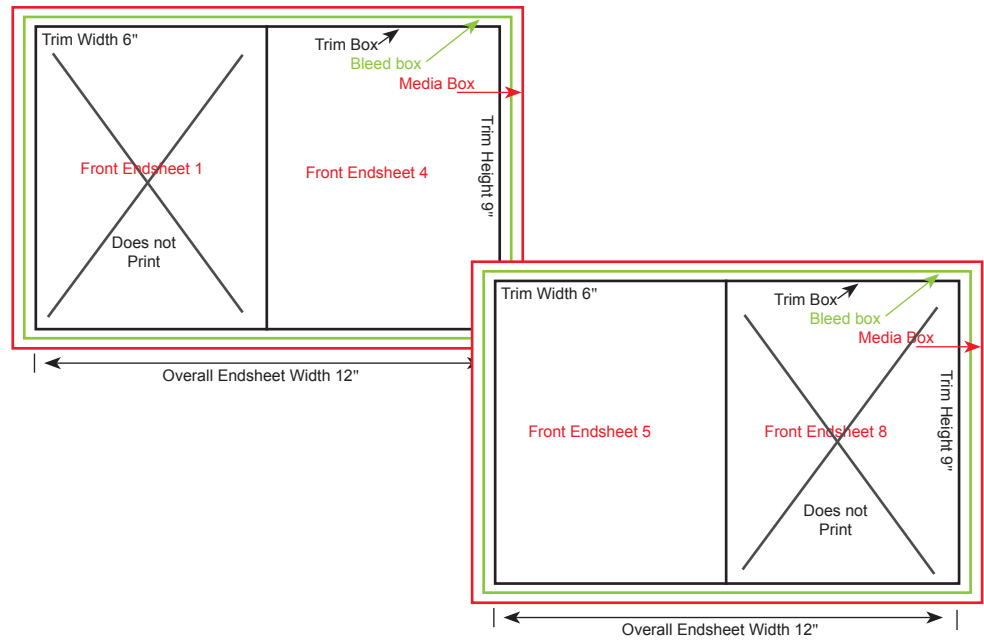

Figure 9
- ❑ Endsheets: If one endsheet of the spread does not print the file must still be submitted as a spread. The endsheet not printing will be blank. Endsheets 1 and 8 never print as these will be the sides glued to the inside of the cases. (See Figure 9)